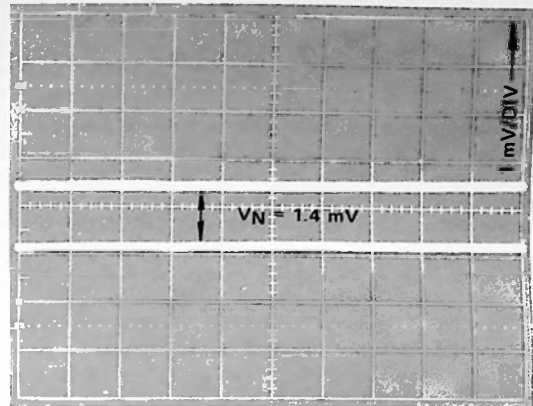

Figure 43 Measuring Separation between Two Traces
4. Disconnect the inputs and measure the separation between the two traces in volts. This is V_N (Figure 43).